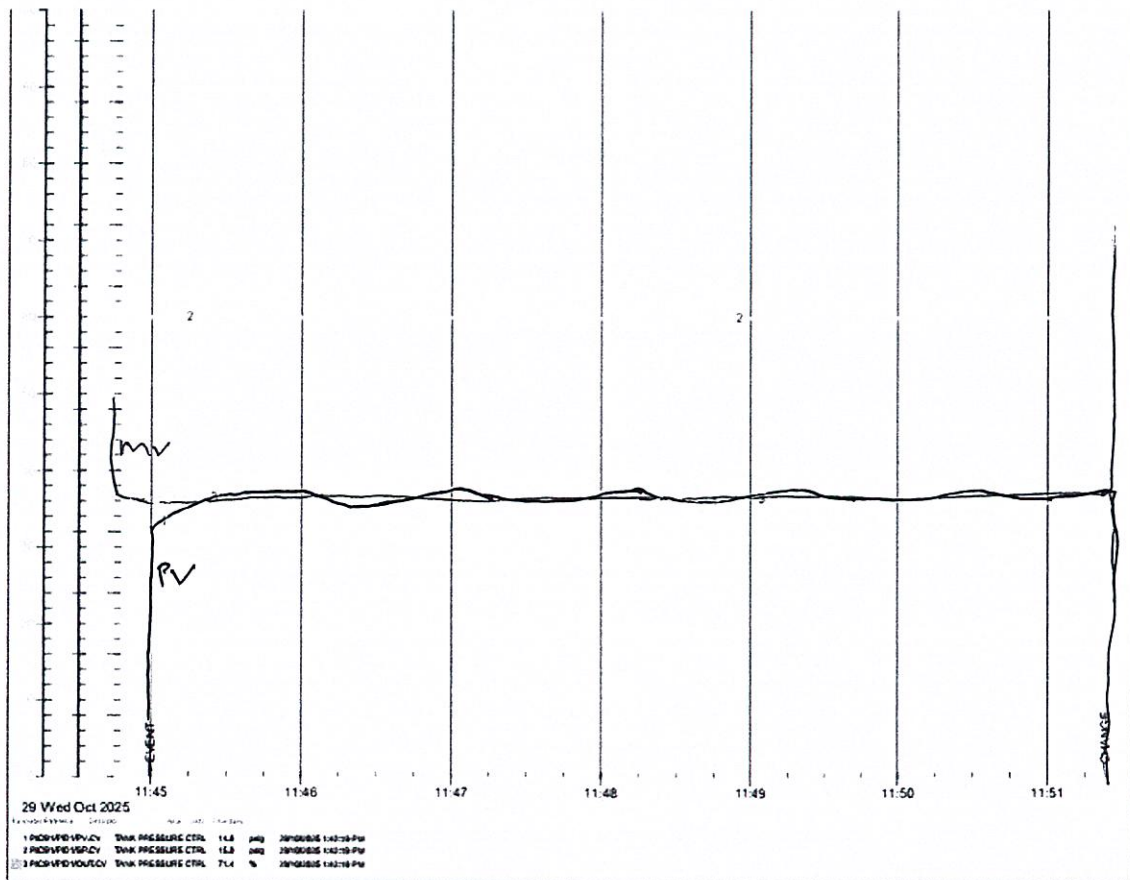

Figure 1: Response Of Trial 1 Single Capacity Process
- i. Give briefly your comment based from Figure 1. (3 Marks)
- iii. During conducting the experiment, the procedure requires the usage of Larger Proportional Band (PB) and also Larger Integral Time (TI). Briefly discuss the possible outcome of Response that you will obtain. (4 Marks)
- iv. Based from Figure 1, identify the Characteristic Of The Process. (1 Mark)
Refer Below - Figure1 : Response Of Trial 1 Single Capacity Process .